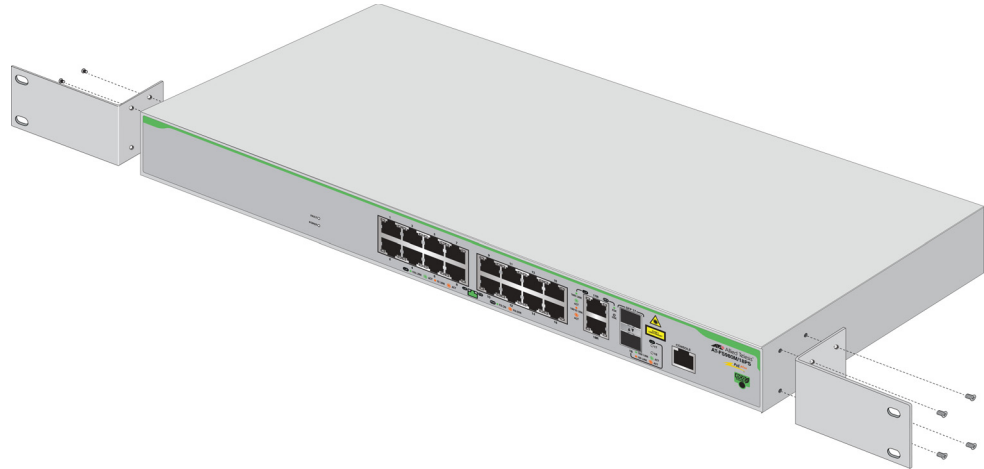

Figure 29. Attaching the Equipment Rack Brackets
2. Orient the brackets against the sides of the switch and secure them to the switch with the eight screws as shown in Figure 29 on page 56.